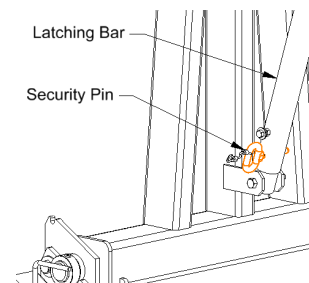

Figure 29
- c. Install the Safety Pin into the slide tube Latching Bar as shown in figure 29.